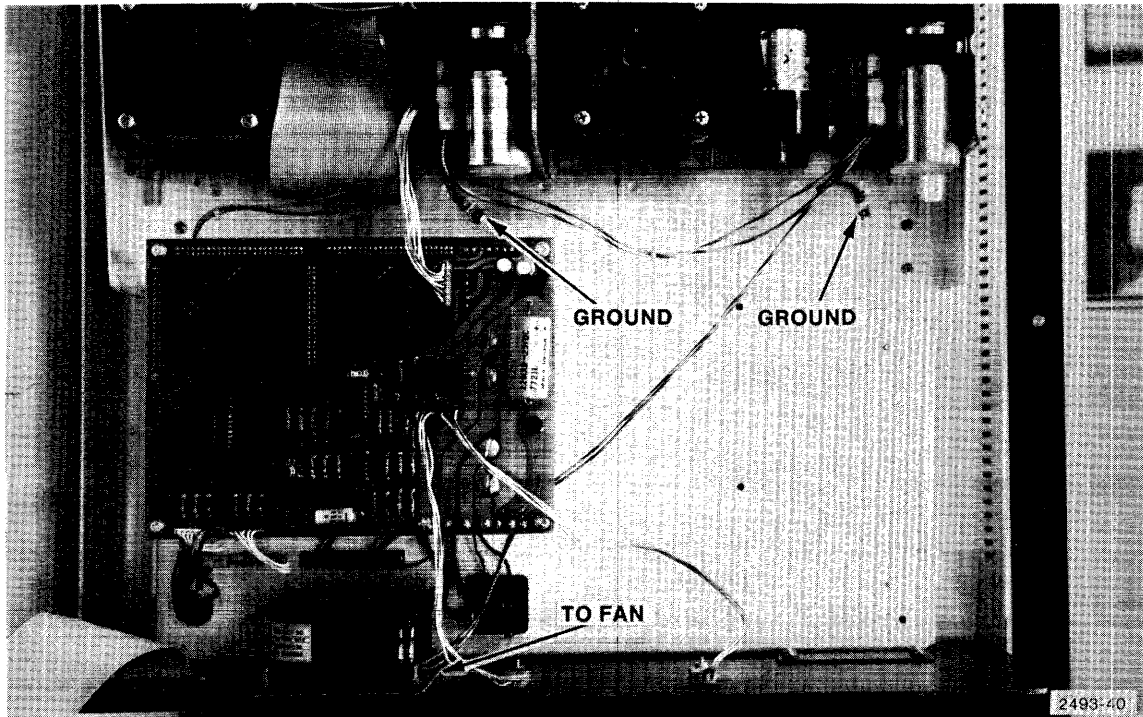

Figure 7-14. Wire set E in place including a single connector to each drive, two ground connections and two leads to the fan.
- x. After feeding ends of wire set E under power supply circuit board, connect as shown in Figure 7-14. Original single drive wire set must first be removed and discarded.